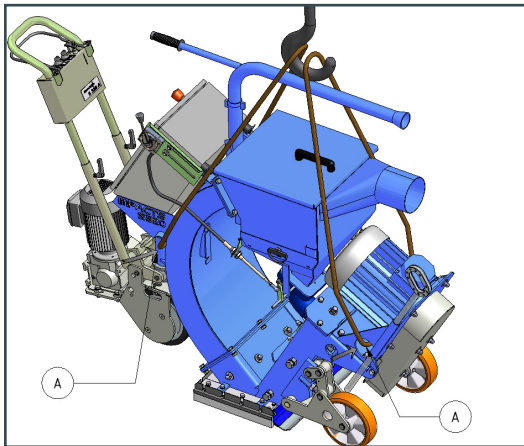

FIG. 5
**Note:** Do not fix any ropes or chains to the handle; only at the locations shown in Figure 5. Remove all abrasives from the machine before transport.